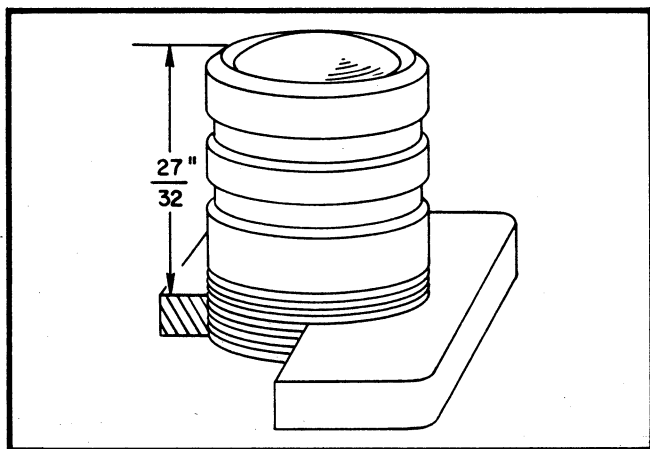

Figure 1. Proper Lens Assembly Position (Initial Focus)
(1) Lamp sockets should be mounted at the rear of the slots in the base plate.
(2) Correct fan position is at the end of the fan shaft, even with the surface of the oilite bearing in the upper bracket, and with the fan hub flush with the step in the fan shaft. (NOTE: Do not oil the upper fan bearing.)
(3) Correct projection lens assembly position (see Figure 1, Initial Focus) is  $27/32$ " from the lens barrel crown to the lens mount. Set each lens assembly into its mount and turn each in to achieve the proper dimension.